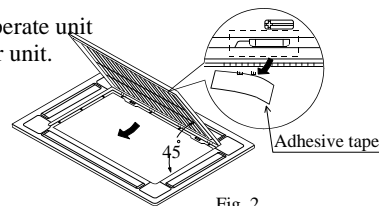

Fig. 2
② Lift it up for about 45 degree and remove it from ornament. Tear off adhesive tape fixing air filter on the back of the air inlet grill. (Refer to Fig. 2)
(2) Remove cover plate at corner